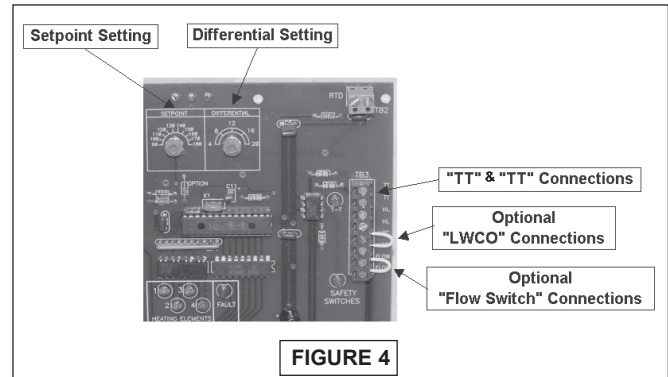

FIGURE 4
THERMOSTAT: Connect thermostat or zone valve end switch to terminals TT and TT (Figure 4). **Do not apply an external power source to these terminals!!** Strip wire ends before inserting into terminal block. Tighten terminal screw clamps.
3. Set the boiler operating temperature to designed heating water temperature by adjusting the potentiometer dial located on the top center of the controller (*Figure 4*). Adjust arrow on temperature adjustment dial to the water temperature required.